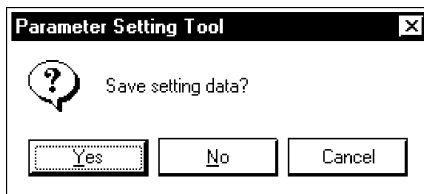

Figure 3.1.4 Data Save Confirming Dialog Box
- (1) From the menu bar, click **File** then choose **Terminate**.
- (2) If the current setting data has not been saved, the following message box appears (Figure 3.1.4).